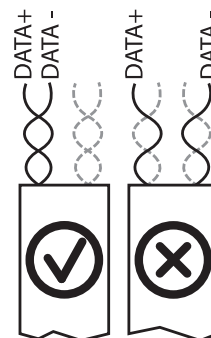

Figure 30: Assignment of twisted-pair wires
- Observe the wire pairing when connecting DATA+ and DATA- (see Figure 30)